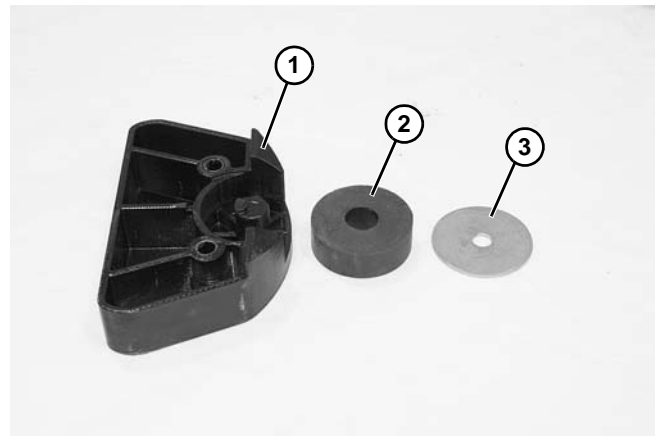

Figure 58
3. Turn over bumper pallet puck (**Figure 58, item 1**) and remove bumper (**Figure 58, item 2**) and washer (**Figure 58, item 3**).